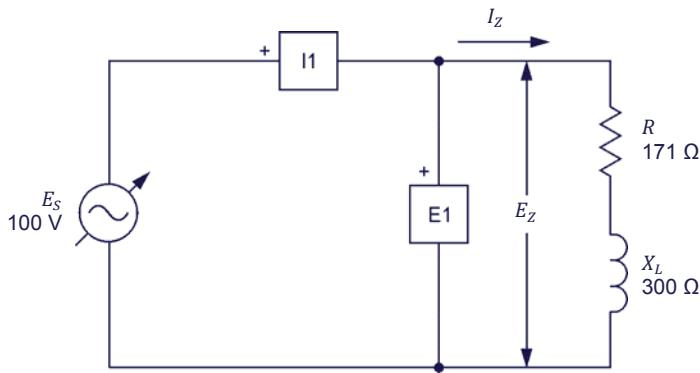

Figure 2-18. Series ac circuit containing a resistor and an inductor.
- 25.** Set up the circuit shown in Figure 2-18.